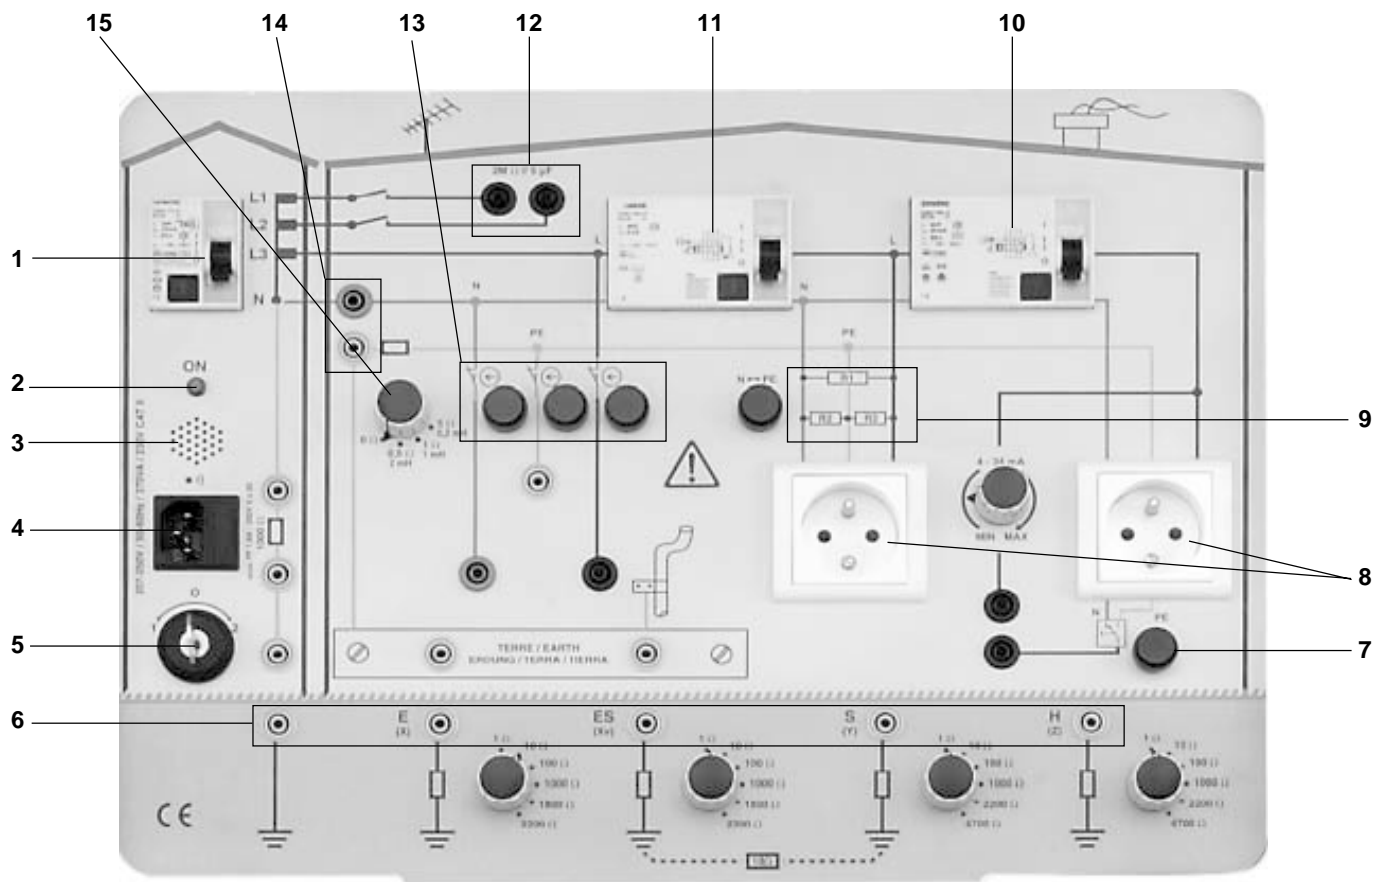

Figure 1
- Before using the demo case, see figure 1:
- Check that the differential system on the case's input (ref. 1) is set to position O
- Set the power on switch and phase-neutral inverter (ref. 5) to 0.
- If neither the buzzer nor the red LED are activated in position 1 or position 2, the fuse must be changed. Use the spare fuse next to the blown fuse installed, both located in the power socket (ref. 4). If the buzzer and the LED still do not work, **RETURN TO THE AFTER-SALES DEPARTMENT.**